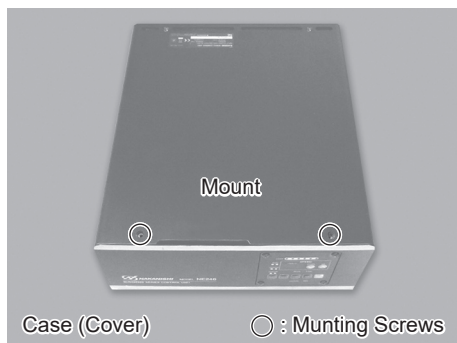

Fig. 49
- (13) Secure the top of the Case (Cover) to the CONTROLLER'S main body using the Mounting Screws (2pcs.) (Fig. 49).